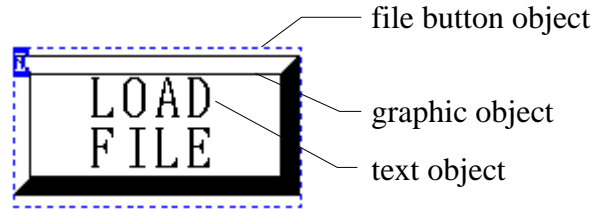

Fig. 3-20: Example of a File Button
- 6) Click on the OK button. A file button object is created and displayed as shown in Fig. 3-20.